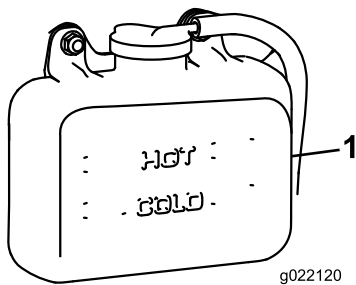

Figure 49
1. Check the level of the coolant in the expansion tank (Figure 49).